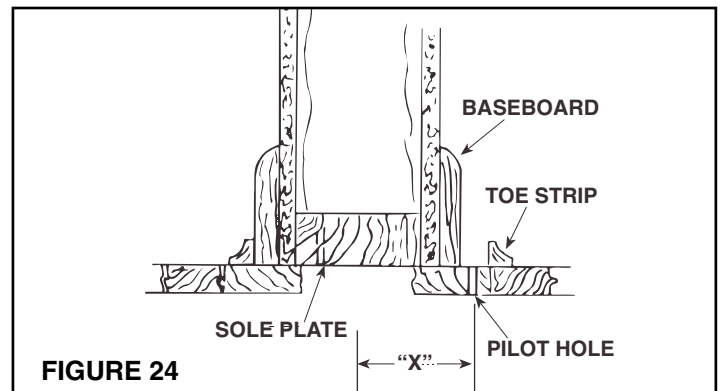

FIGURE 24
1. See Figure 24. A small “Pilot” or “Locating” hole can be drilled behind baseboard toe strip to determine proper location of 2½” diameter tubing hole in sole plate.
3. See Figure 24. Once desired inlet locations have been determined, cut a 2½” hole in soleplate directly in line with proposed inlet location. Check through tubing hole to be sure no obstruction exists.